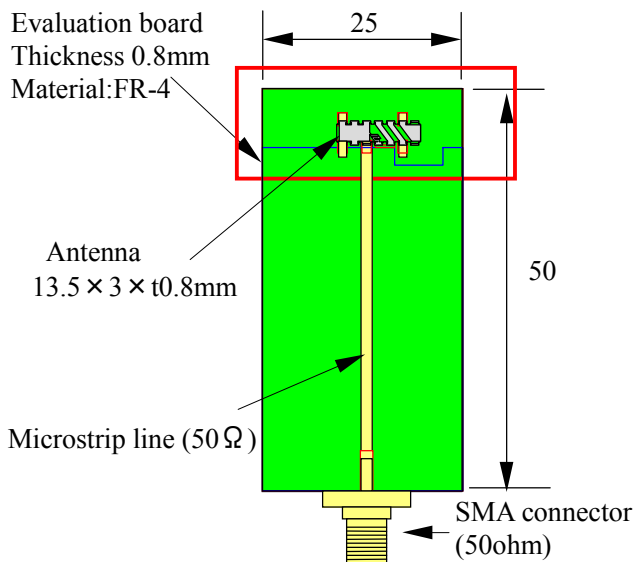
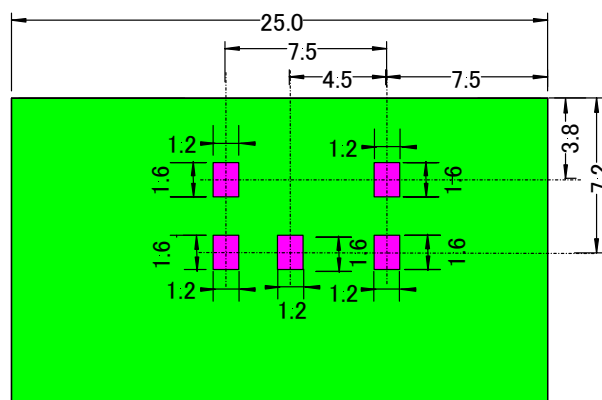
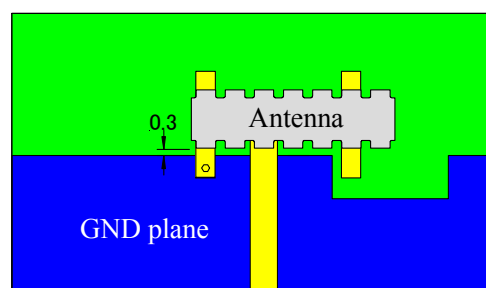

Fig.1 Evaluation board
Fig.4 Solder resist pattern
Fig.5 Mount position
- (1) The tolerance of Fig.1, Fig.2, Fig.3, and Fig.4 are ± 0.1 mm.
- (2) Fig.2, Fig.3, Fig.4 and Fig.5 are enlargements of the area surrounded by the red line in Fig.1 (Fig.2 is the perspective view of Fig.1).
- (3) Yellow areas show conductor, light blue areas show FR-4 substrate and green areas show solder resist.
- (5) Via hole ($\phi 0.4$ mm) connects GND land and ground plane.
- (6) We recommend to make solder resist on the surface of the substrate but no solder resist on the pink areas shown in Fig.4.
- (7) An antenna is separated from the GND 0.3mm, and mounted (shown in Fig.5).